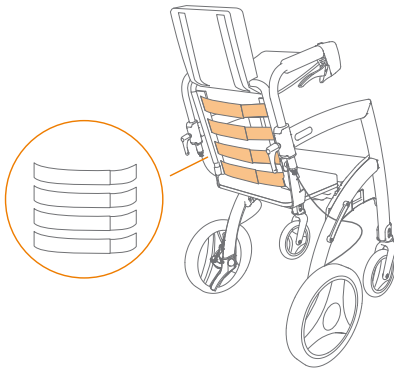

Figure 52: Loosen for more seat depth.
- c. Adjust the straps by pulling off the Velcro and fastening it again to the desired setting (**Figure 52**).